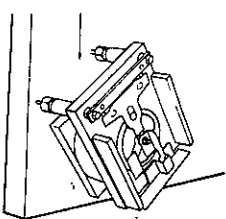

Fig. 31
Attach (31) STANDOFF and place MAGNET ASSY as shown in Fig. 31.